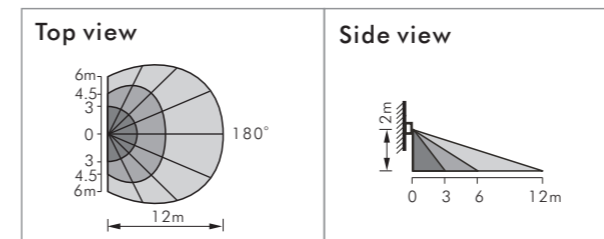

FIG.2
3.1.1 It can be installed at the height of 2 - 4m, it's recommended to install it at the height of 2m to gain the optimal detection pattern, the detection range can reach up to 12m at the height of 2m (See FIG.2).